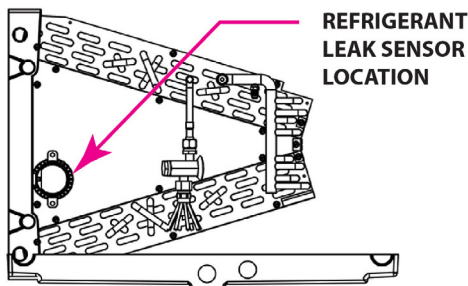
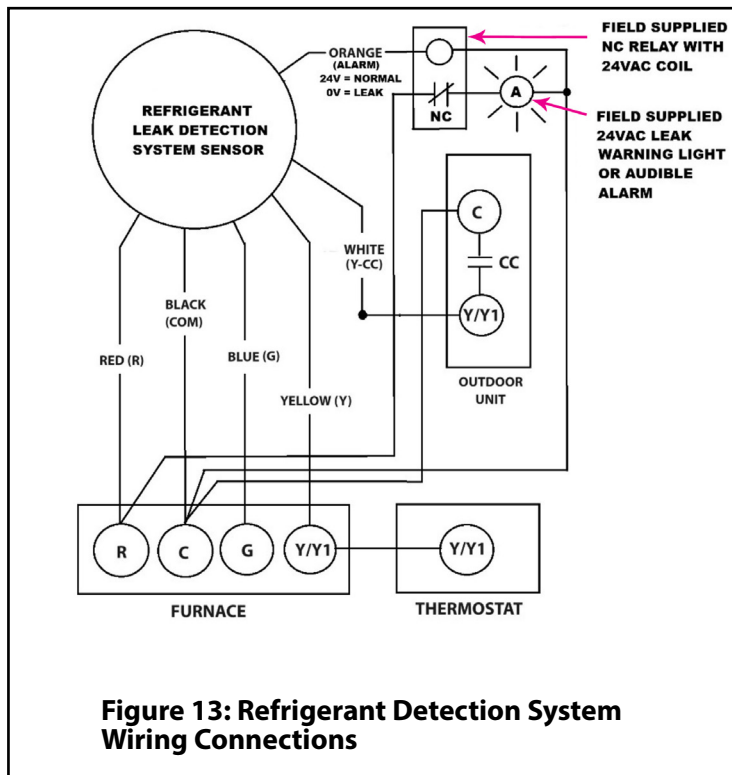

Figure 12: Refrigerant Leak Detection Sensor Location
Figure 13: Refrigerant Detection System Wiring Connections
This coil is equipped with a refrigerant leak detection system consisting of a refrigerant sensor with integral relays to perform the necessary leak mitigation if a refrigerant leak is detected by the sensor (see Figure 12). The refrigerant leak detection system wiring harness pigtailed must be properly connected to the furnace, thermostat, and outdoor unit low voltage control circuit (See Figure 13).
The flammable refrigerant sensor is installed from the factory for upflow, downflow, and horizontal left discharge applications as shown in Figure 12. For horizontal right discharge applications, the sensor must be relocated to the horizontal right discharge position location on the opposite side of the coil delta plate shown in Figure 12. Screw holes for the alternate sensor location are provided on the coil delta plate.
disconnecting the 24 VAC signal to the warning light or audible alarm. When a refrigerant leak is detected, the relay will be de-energized and the contacts will close sending a 24 VAC signal to the warning light or audible alarm. See Figure 13 for suggested field wiring connections.
This coil is equipped with a refrigerant leak mitigation system that energizes the furnace blower motor to deliver at least the required minimum airflow (See Table 2 or 3) when the refrigerant leak detection system detects a leak. This will dilute the flammable A2L class refrigerant to a point that it no longer poses a risk of an explosion or fire. Follow the procedure (**Verifying Proper Functioning of Refrigerant Leak Mitigation System**) later in this section to confirm the refrigerant mitigation system is functioning as it should. The refrigerant leak detection system wiring harness pigtails must be properly connected to the furnace, thermostat, and outdoor unit low voltage control circuit. (See Figure 13).
Refrigerant Detection System Wiring Connections (See Figure 13)
Should a refrigerant leak occur in the indoor coil, the refrigerant leak detection system will energize the indoor blower and will open the 24VAC circuit to the outdoor unit compressor contactor. The circulation of air will disperse the leaked flammable refrigerant into the conditioned space where it will be diluted to point where it can no longer be ignited by an ignition source. The indoor blower will continue to operate until 5 minutes after the concentration of the refrigerant at the sensor drops below the sensor's setpoint. Should the concentration of the refrigerant rise above the setpoint of the sensor, the cycle will repeat until the refrigerant concentration stays below the setpoint of the sensor. The sensor pigtail marked "ALARM" will normally be energized with 24VAC when no leak is detected and will be de-energized when a leak is detected for the purpose of notifying a building management system to issue a refrigerant leak alarm or to energize a leak warning light or audible alarm if a field supplied normally closed relay is installed (See Figure 13).
2. Locate the black refrigerant sensor located near the bottom front of the coil assembly (see Figure 12).